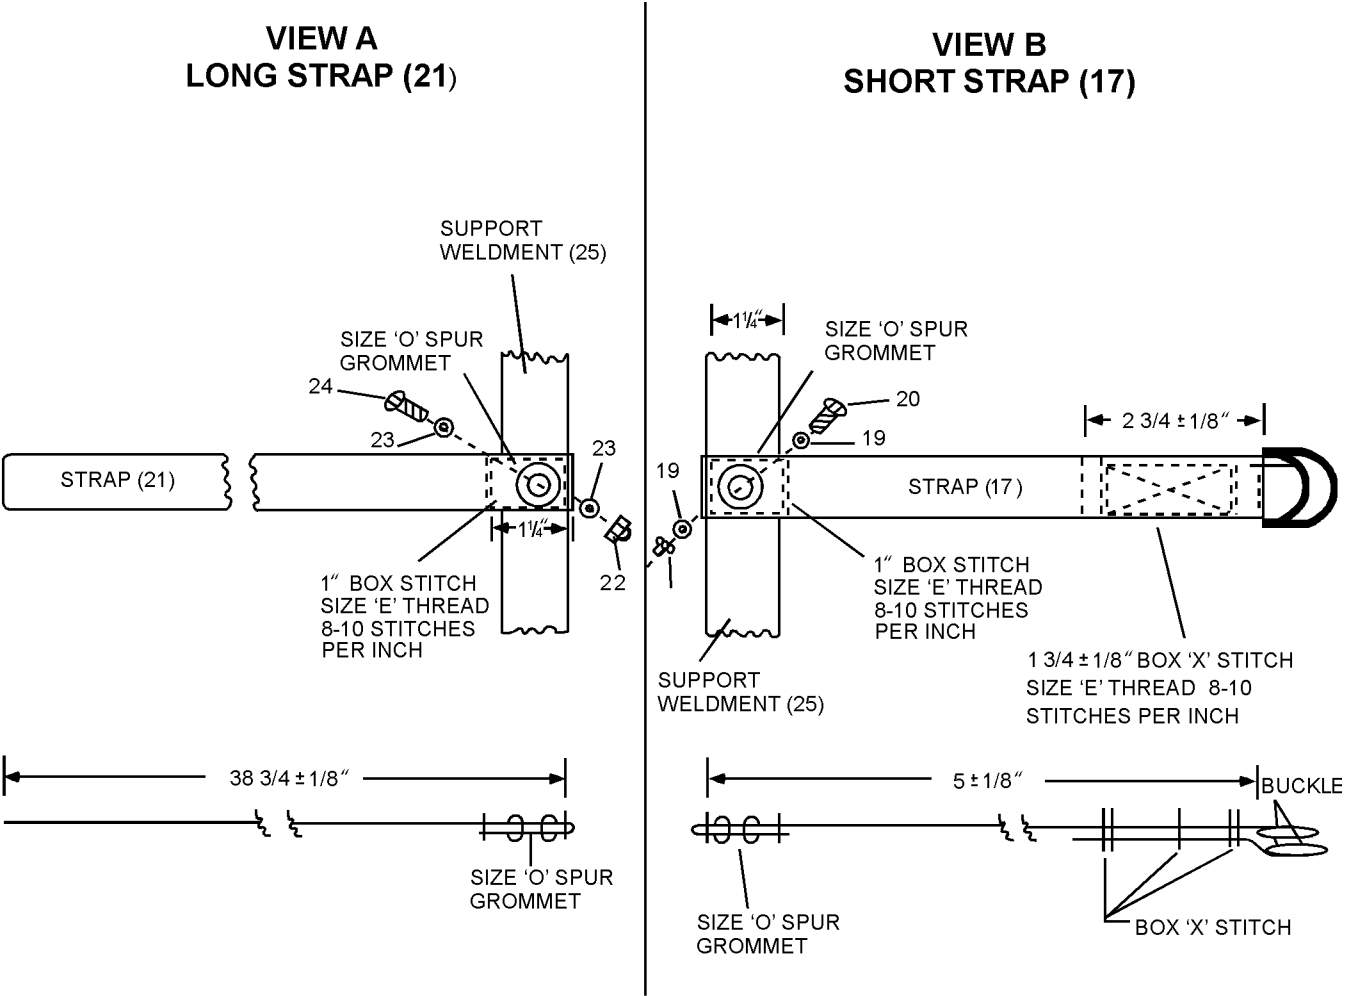

Figure 12-4. Short and Long Strap
- 1. Fabricate short strap assembly (17) as per figure 12-4, view B.
- 2. Fabricate long strap assembly (21) as per figure 12-4, view A.